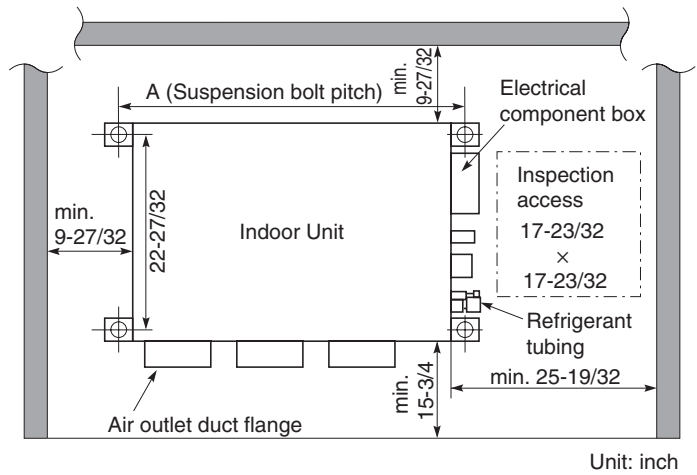

Fig. 1-101
- The minimum space for installation and service is shown in Fig. 1-101 and Table 1-11.